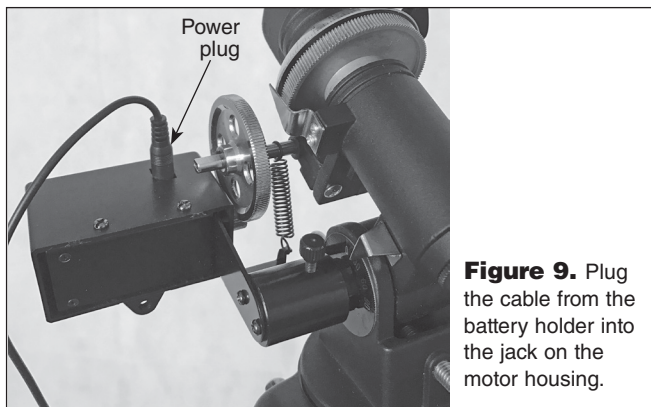

Figure 9. Plug the cable from the battery holder into the jack on the motor housing.
9. Lastly, plug the cable from the battery holder (B) into the power jack on the motor (**Figure 9**).